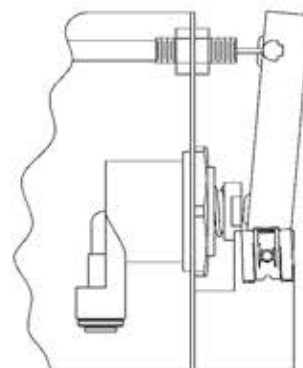

FIG. 8
3. Remove cable free play by adjusting the jam nuts on the ends of the operating cable. See Figure 8
See Fig. 8